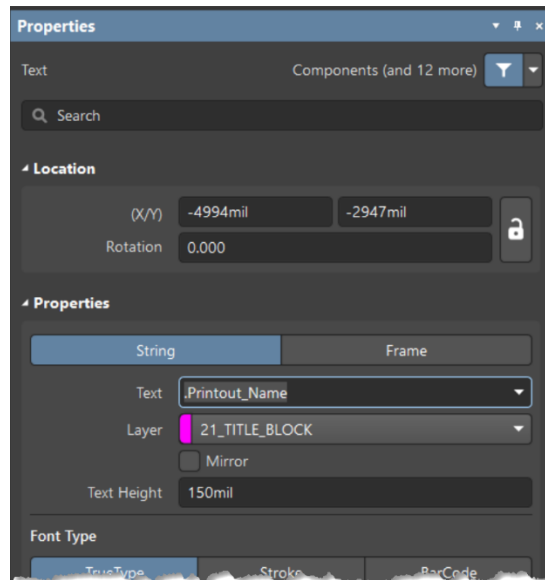

Figure 18. *Printout_Name* special string
- Choose the text on the 21_TITLE_BLOCK layer when the option pops up. Clicking on this text, view its properties in the *Properties* dialog, Figure 18. Note the special string *.Printout_Name* is a special string which exists in the PCB document by default.